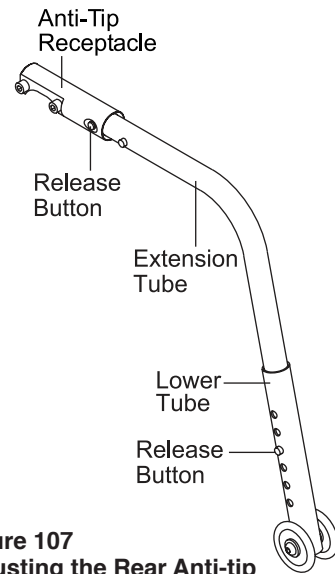

Figure 107
1. To adjust the height of the rear anti-tip, press the two release buttons on the telescoping lower tube, then adjust the height of the lower tube so the wheel is within 1-1/2" to 2" off the ground. See Figure 107.